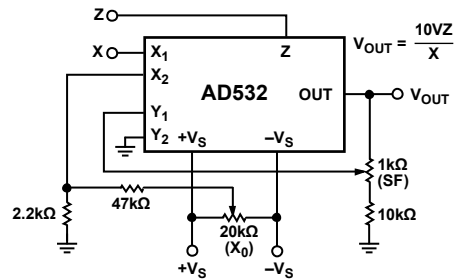

Figure 16. Divider Connection
Accuracy in the divide mode is only a little more complex. To achieve division, the multiplier cell must be connected in the feedback of the output op amp as shown in Figure 16. In this configuration, the multiplier cell varies the closed-loop gain of the op amp in an inverse relationship to the denominator voltage. Therefore, as the denominator is reduced, output offset, bandwidth, and other multiplier cell errors are adversely affected. The divide error and drift are then  $\epsilon_m \times 10 V / (X_1 - X_2)$ , where  $\epsilon_m$  represents multiplier full-scale error and drift and  $(X_1 - X_2)$  is the absolute value of the denominator.
The AD532 can be configured as a two-quadrant divider by connecting the multiplier cell in the feedback loop of the op amp and using the Z terminal as a signal input, as shown in Figure 16. It should be noted, however, that the output error is given approximately by  $10 V \epsilon_m / (X_1 - X_2)$ , where  $\epsilon_m$  is the total error specification for the multiply mode and bandwidth by  $f_m \times (X_1 - X_2) / 10 V$ , where  $f_m$  is the bandwidth of the multiplier. Further, to avoid positive feedback, the X input is restricted to negative values. Thus, for single-ended negative inputs (0 V to -10 V), connect the input to X and the offset null to X2; for single-ended positive inputs (0 V to +10 V), connect the input to X2 and the offset null to X1. For optimum performance, gain (SF) and offset (X0) adjustments are recommended as shown and explained in Table 5.